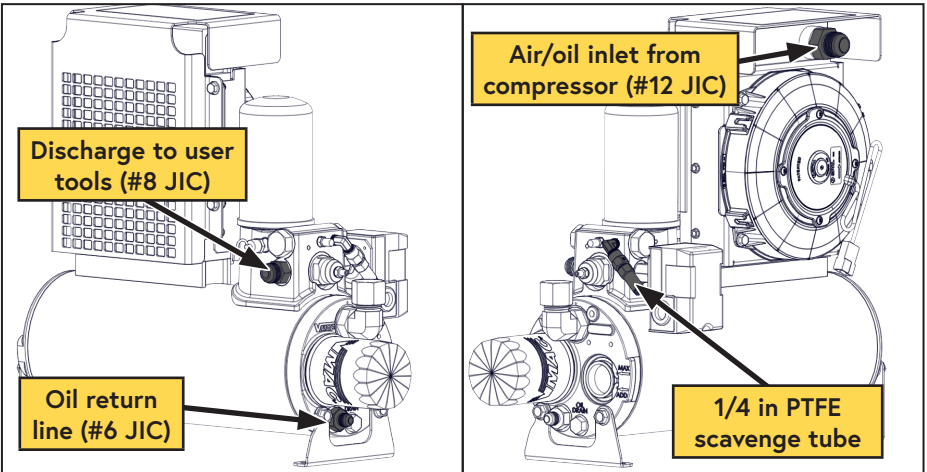

Figure 30 — WHASP Tank connections
## Connecting the Interior Hoses (Figure 30)
- Connect the 1/4 in PTFE tube to the 1/4 in push-to-connect (oil scavenge) fitting near the coalescing filter (Figure 30).